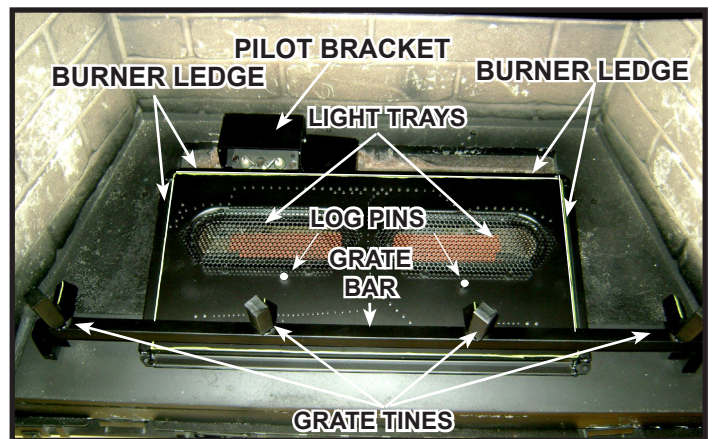
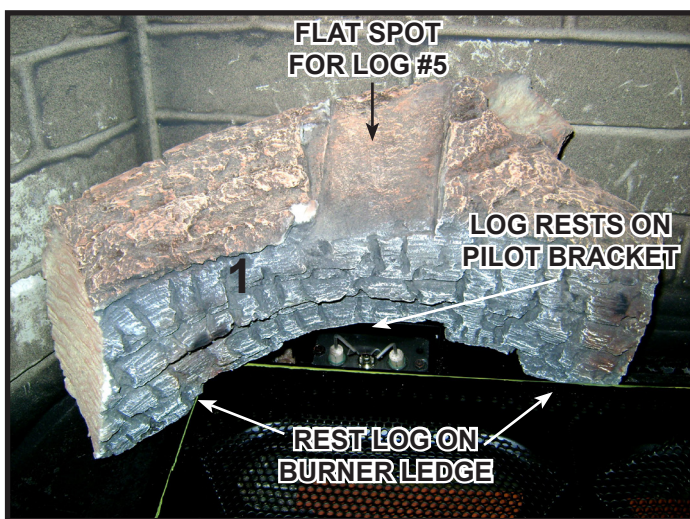
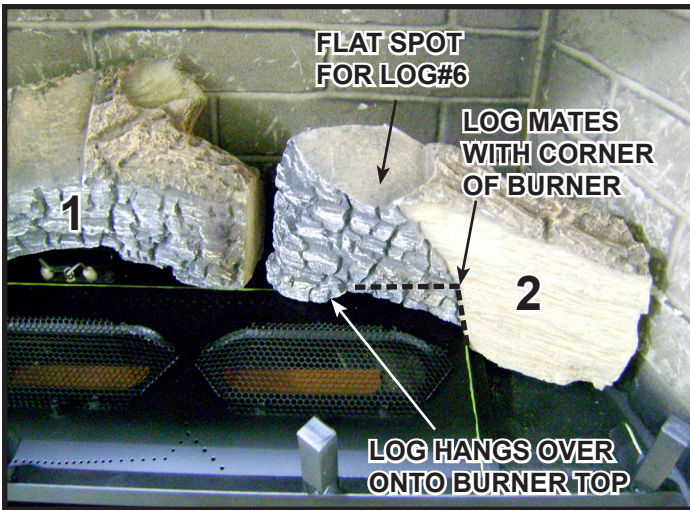

Figure 2. Reference Points
Figure 3. Log #1
Figure 4. Log #2
**Log #1 (SRV2202-702):** See Figure 2 for additional references. Position Log #1 as shown in Figure 3. Rest the left and right ends of Log #1 on the burner ledge. The pilot bracket will support the center of the log. Pull the left end of the log forward into position.
**Log #2 (SRV2202-701):** See Figure 2 for additional references. Position Log #2 as shown in Figure 4. Mate Log #2 with the right corner of the burner as shown. Pull the log forward and to the left until it locks into position.
**Log #3 (SRV2202-704):** See Figure 2 for additional reference details. Locate the log slot on the bottom right end of Log #3. Mate the log slot with the left log pin. Rotate the left end of the log counterclockwise, until it contacts the grate tine.
**Log #4 (SRV2202-703):** See Figure 2 for additional reference details. Locate the log slot on the bottom left end of log #4. Mate the log slot with the right log pin. Rotate the right end of the log clockwise, until it contacts the grate tine.